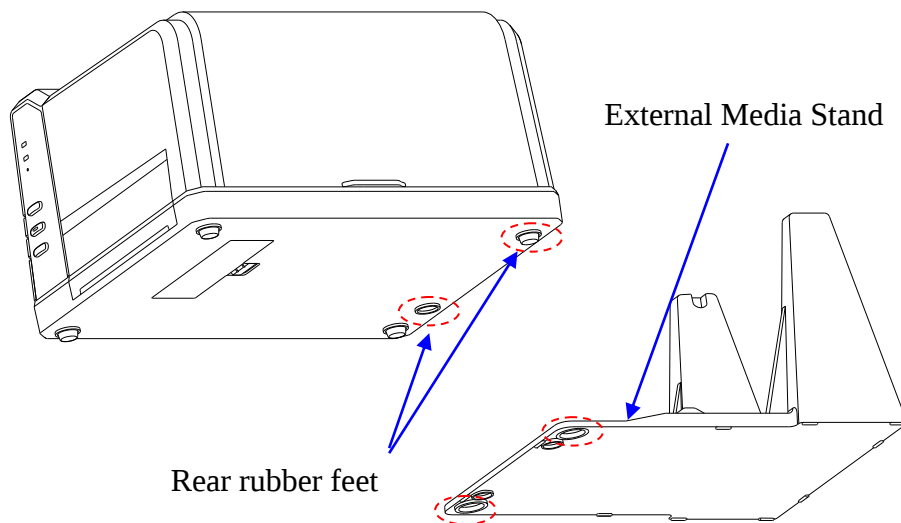

Figure 2-14 Place the External Media Stand
1. Place the front part of the External Media Stand under the printer, making sure the two rear rubber feet of the printer are fitted into the two holes on the media stand, see Figure 2-14.